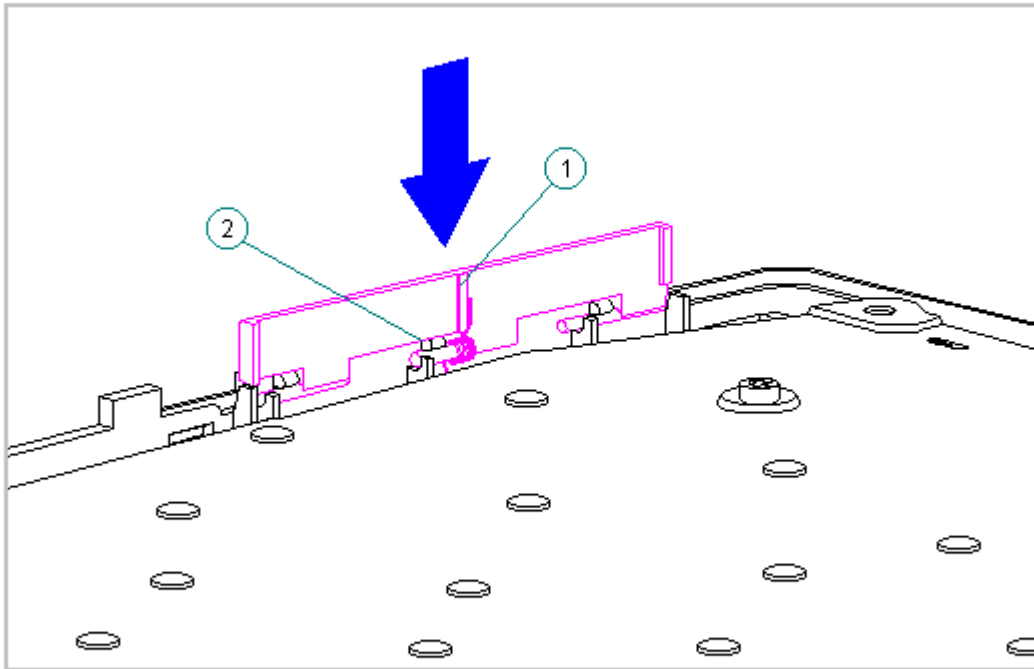

Figure 3-26. Replacing the PC Card Door (All Models)
2. Install the PC Card (PCMCIA) door, ensuring that the spring is placed between the post [1] and the rib [2] (Figure 3-26).